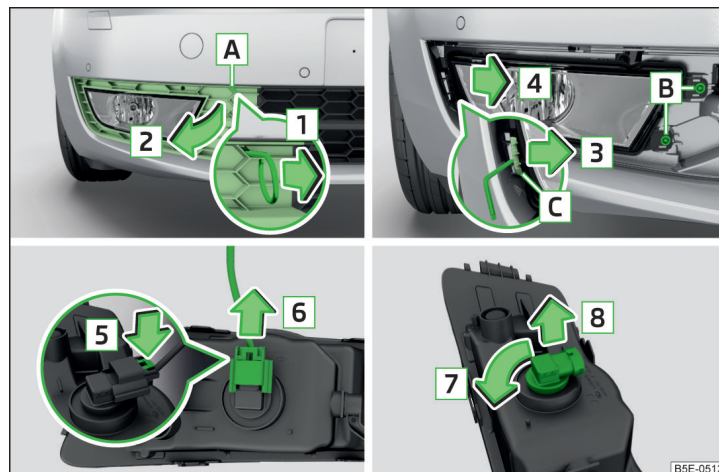

Fig. 223 Remove the fog lamp / bulb change - Version 1
- Insert in opening **A** » Fig. 223 the clamps for removing the full wheel covers » page 208, *Vehicle tool kit*.
- Replace the fog light by inserting it in the opposite direction of the arrow **4** » Fig. 223 and tighten.